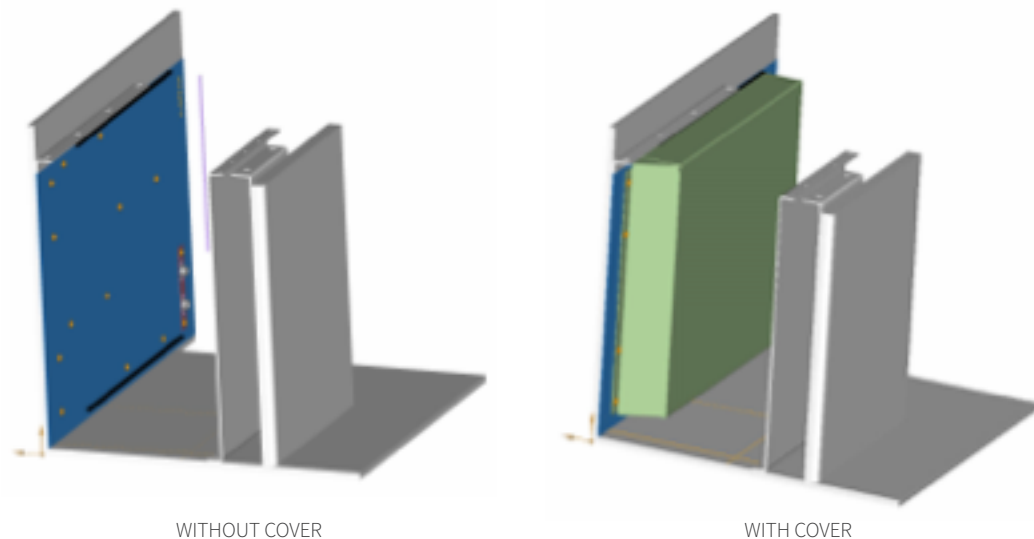

FIGURE 5 - RPU 1 AND 2 PROVISIONAL INSTALLATION
- » RPU 1 and 2 will be co-located on the lower forward side of the captain's closet in the cockpit. The modification will require potted inserts to be installed into the honeycomb wall to mount a cover and provisions to install (2) RPUs (see Figure 5).